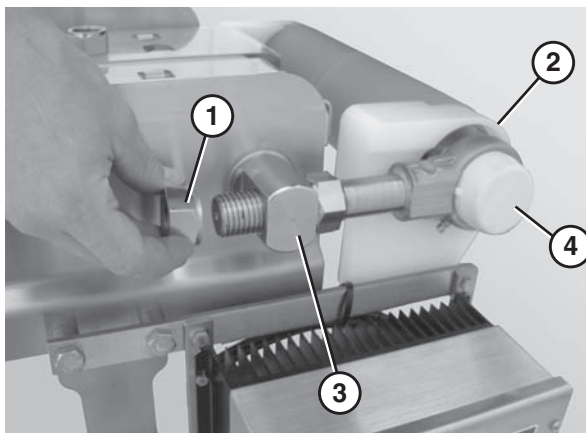

Figure 65
- Remove the back nuts (**Figure 65, item 1**) on both idler tail shafts.
- Slide the idler tail assembly (**Figure 65, item 2**) out of the take up blocks (**Figure 65, item 3**).
- Remove the bearing covers (**Figure 65, item 4**).